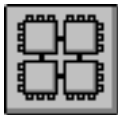

Figure 3-29 Multi-Chip Partitioner Button
- 2. Select the Multi-Chip Partitioner from the Design Manager Tools menu or by double clicking the Multi-Chip Partitioner button in the Design Manager Toolbox (see Figure 3-29).